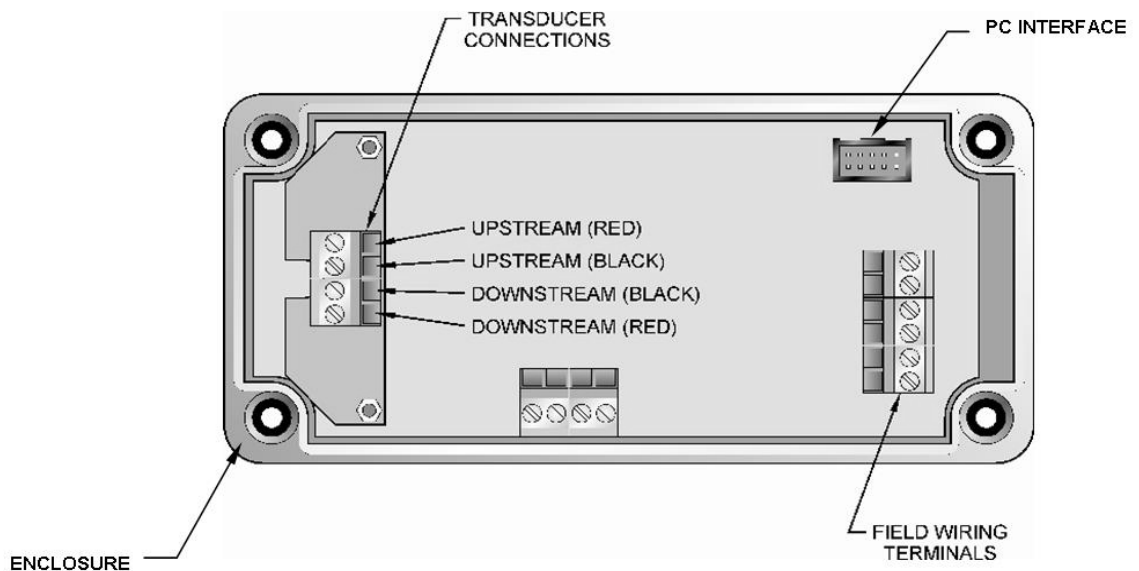

Figure 1.4
- B. Refer to the wiring diagram located on the inside of the TFXL cover and **Figure 1.4** on page 1.10 for proper power and transducer connections. Verify that the voltage level listed on the product identification label - located on the side of the instrument enclosure - matches the power source where connection is being made.
2. The terminals within the TFXL are a cable-clamp type. Connect the appropriate wires to the corresponding screw terminals in the transmitter. See **Figure 1.4** on page 1.10. Secure wires by tightening to between 0.5 and 0.6 Nm of torque.